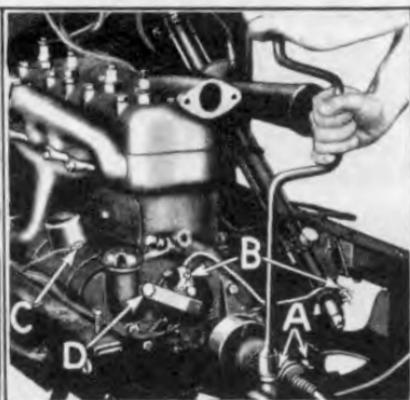

Fig. 24
**17 Remove crankcase front bearing cap** by running out the two cap screws (See "A" Fig. 24), which hold bearing cap to front bearing.